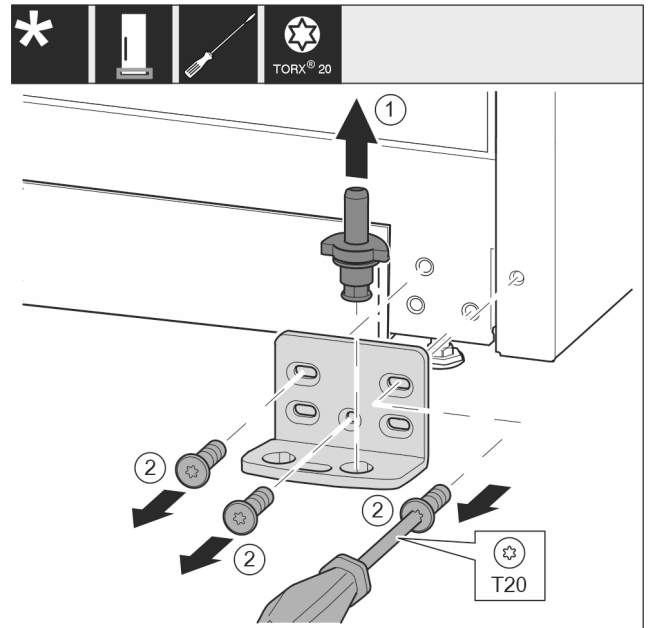

Fig. 16
- ▶ Lift the bearing pin completely upward and remove it. Fig. 16 (1)
- ▶ Remove the screws with the T20 screwdriver and take off the bearing bracket. Fig. 16 (2)